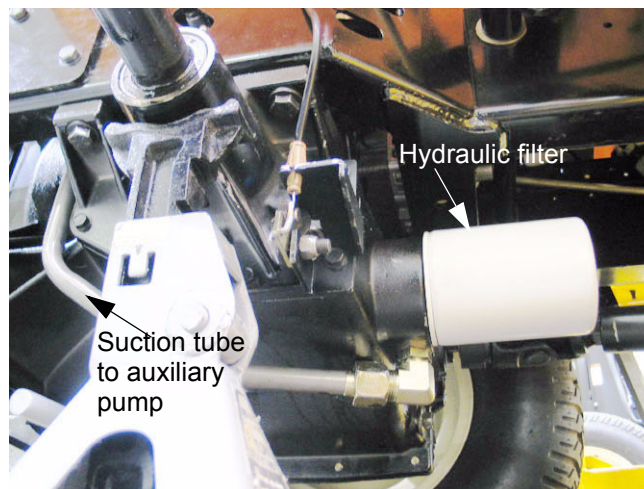

Figure 6.5
- 6.5. The filter and suction tubes are easily reached for inspection with little or no disassembly. See Figure 6.5.